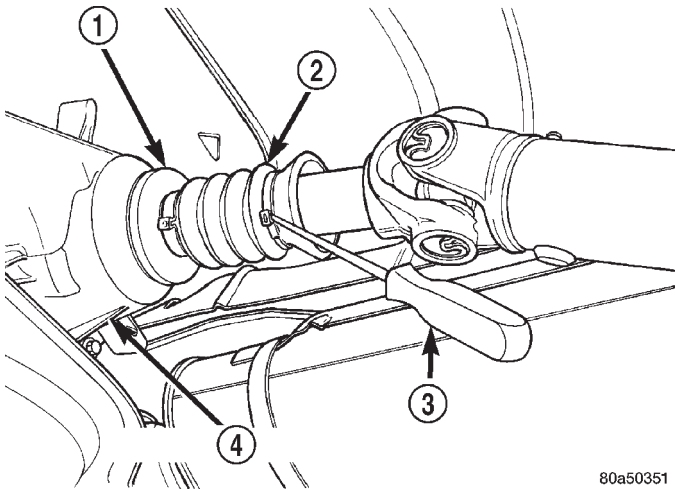

Fig. 15 Dust Boot Clamp
- (1) Shift the transmission and transfer case into Neutral.
- (2) Hoist and support vehicle on safety stands.
- (3) Scribe alignment marks at the pinion shaft and at each end of the propeller shaft. These marks will be used for installation reference.
- (4) Remove the U-joint strap bolts at the pinion shaft yoke.
- (5) Pry open clamp holding the dust boot to propeller shaft yoke (Fig. 15).